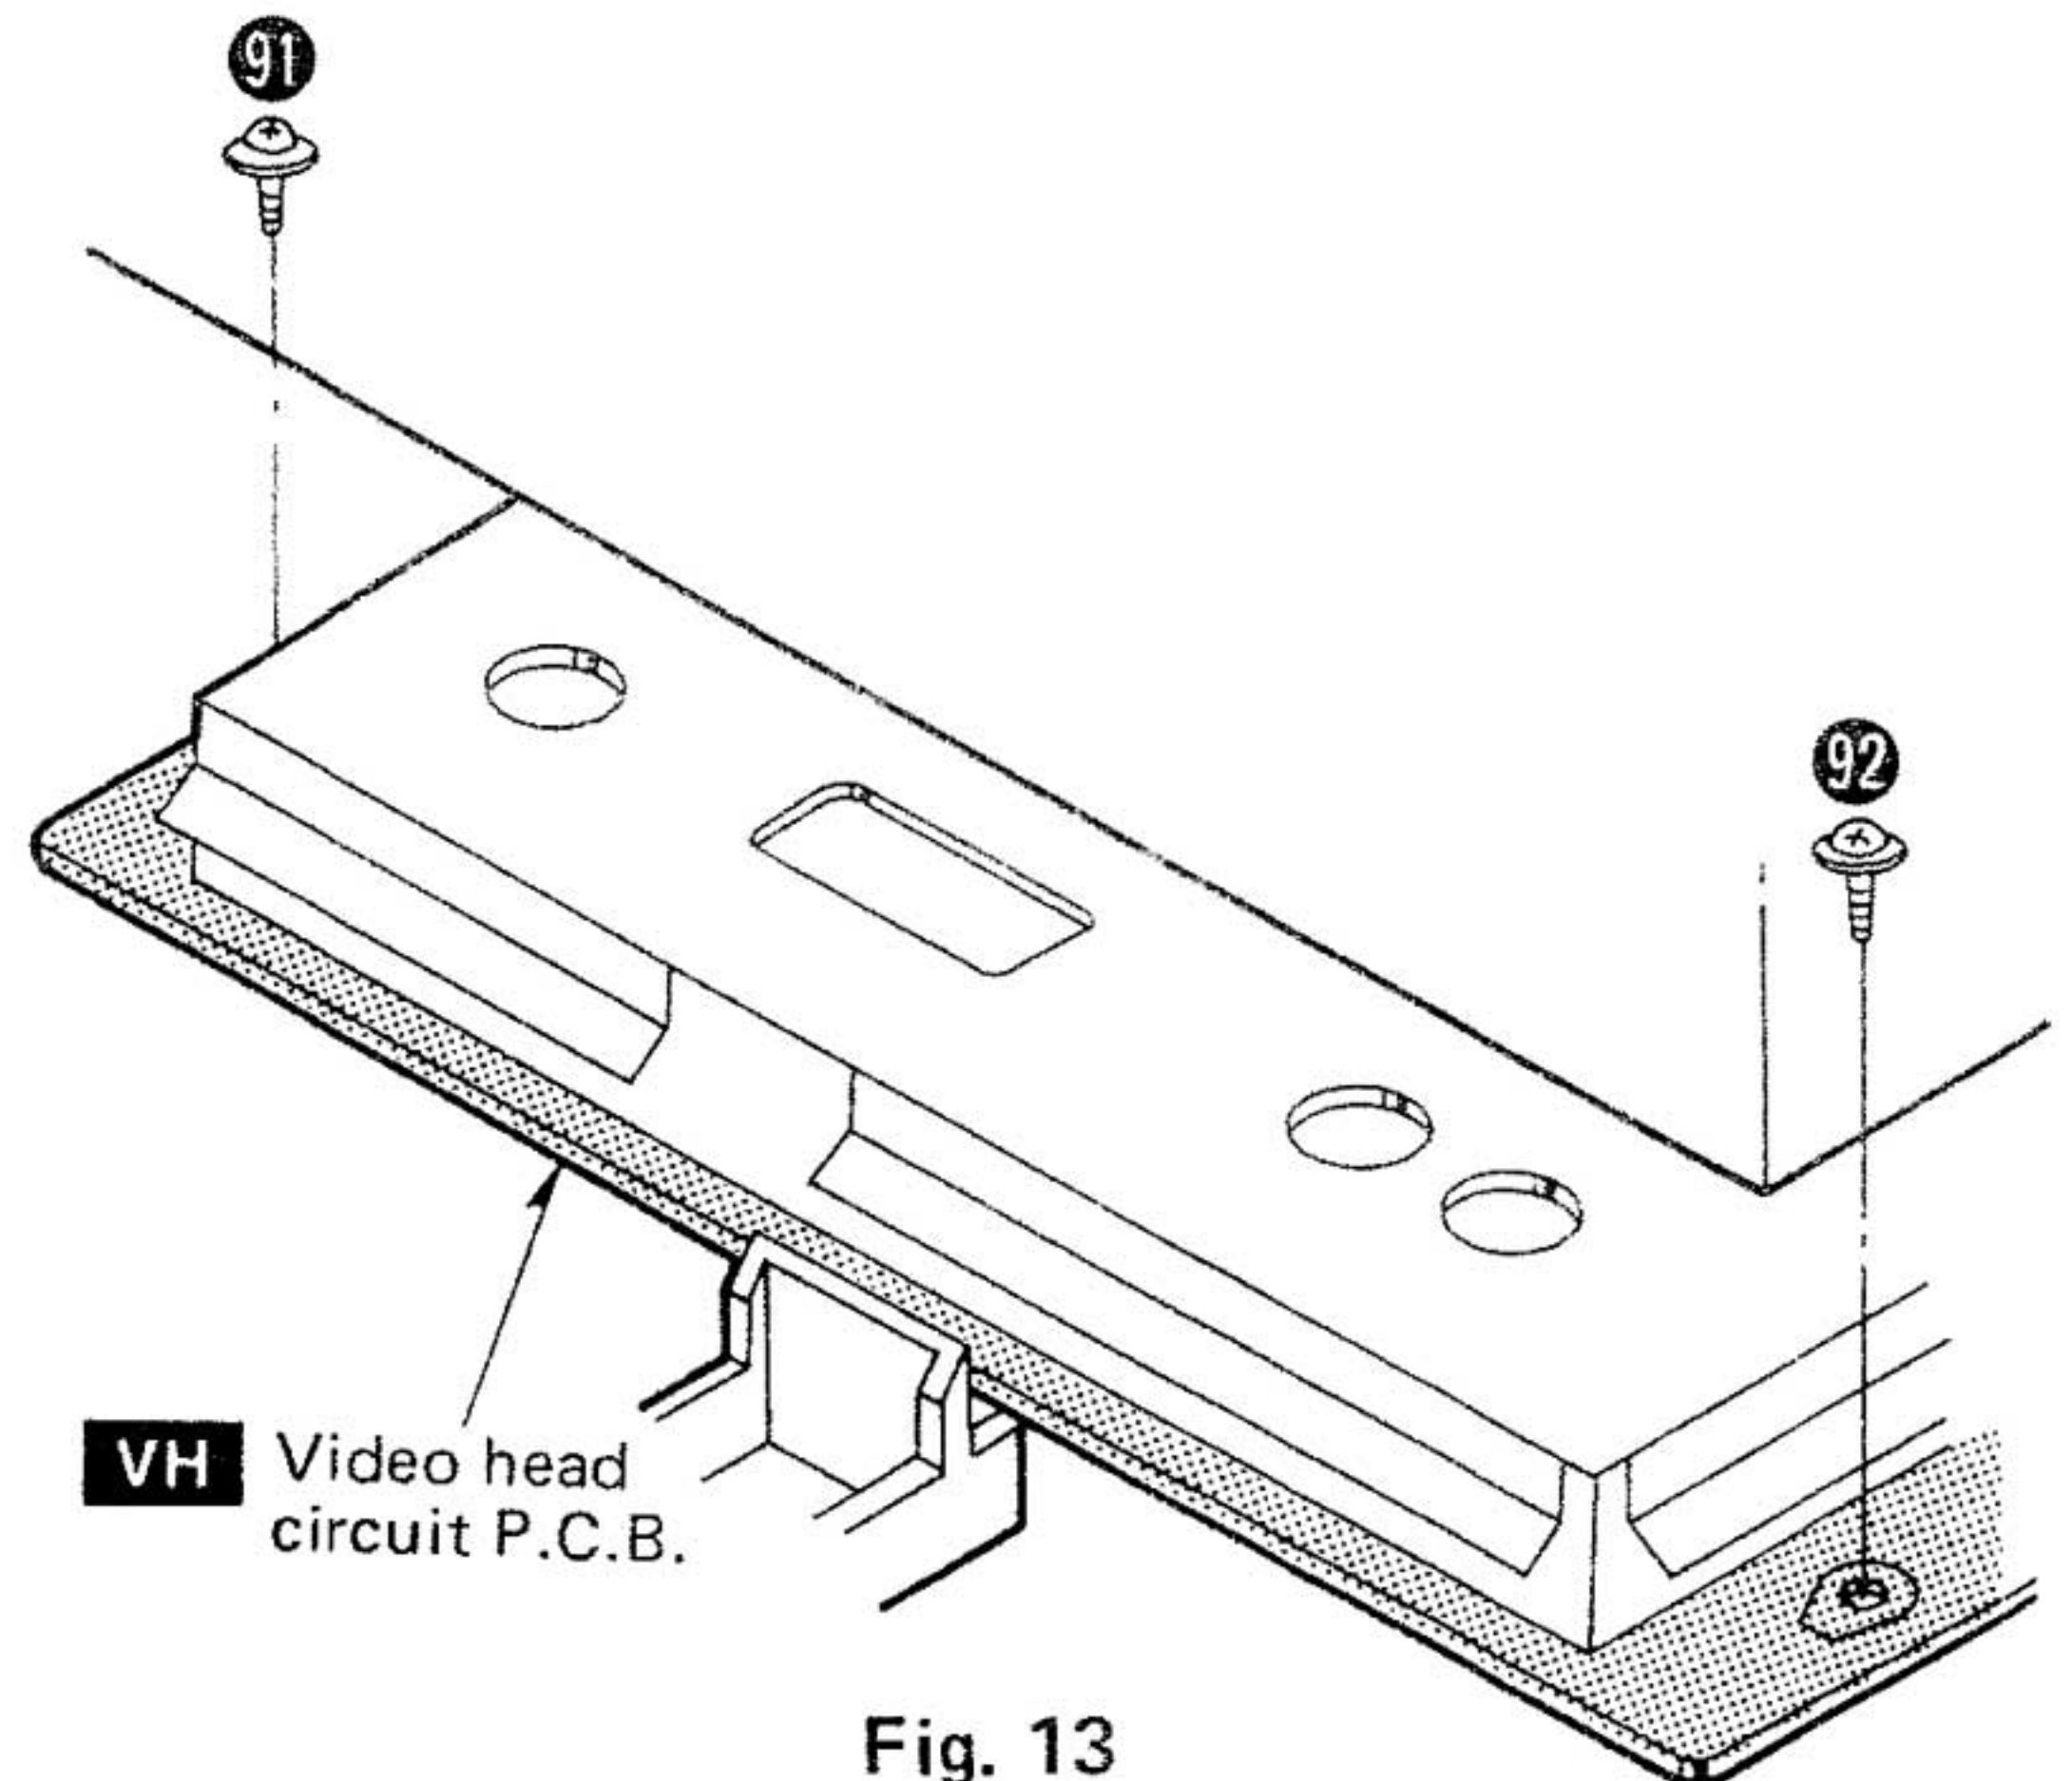

Fig. 13
3. Remove the 2 setscrews (Fig. 13 : 91 , 92 ) of the P.C.B.